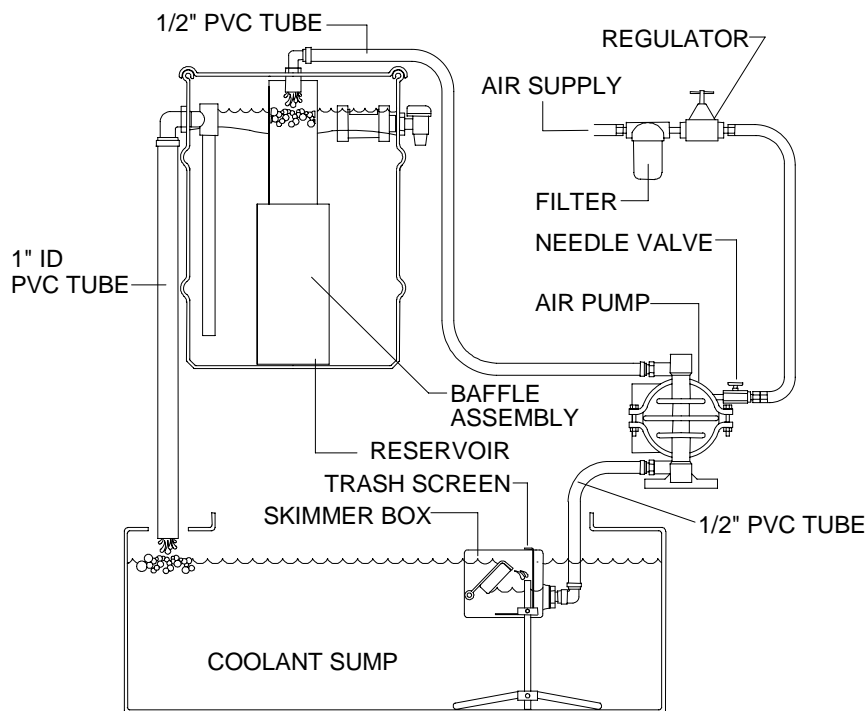

Figure 1
The Skimerator Coolant Aeration and Oil Removal System was designed to separate tramp oil from machining coolant while aerating the coolant to retard the growth of bacteria. In operation, floating oil is skimmed off the top of the coolant in the sump and into the skimmer box where it is pumped to the reservoir (see Fig. 1). A float in the skimmer box allows only a small amount of surface coolant and oil to enter the pump inlet hose. A removable trash screen prevents larger metal particles from entering the pump. The compressed air driven pump forces the oil/coolant mixture into the reservoir where the first stage of aeration takes place as the fluid pours into the baffle assembly. As the coolant/oil mixture settles in the baffle, the oil floats to the top of the reservoir and the cleaner coolant settles to the bottom. As more fluid enters the reservoir, clean coolant flows through the stand tube to the hose where it returns to the sump. As the coolant pours into the sump the second stage of aeration takes place. When a significant amount of oil has accumulated in the reservoir, the oil is drained off by opening the faucet and removing oil until coolant flows from the faucet.
2. Connect one end of the 1" ID PVC tube to the 1" elbow on the side of the reservoir tank. Secure the end with a hose clamp. Route the tube to the sump so the fluid can flow downhill from the reservoir tank to the sump (See Fig. 1). Do not submerge the end of the hose in the coolant. Keep the end of the hose above the fluid to allow aeration to take place as the fluid enters the tank and to assure proper draining.